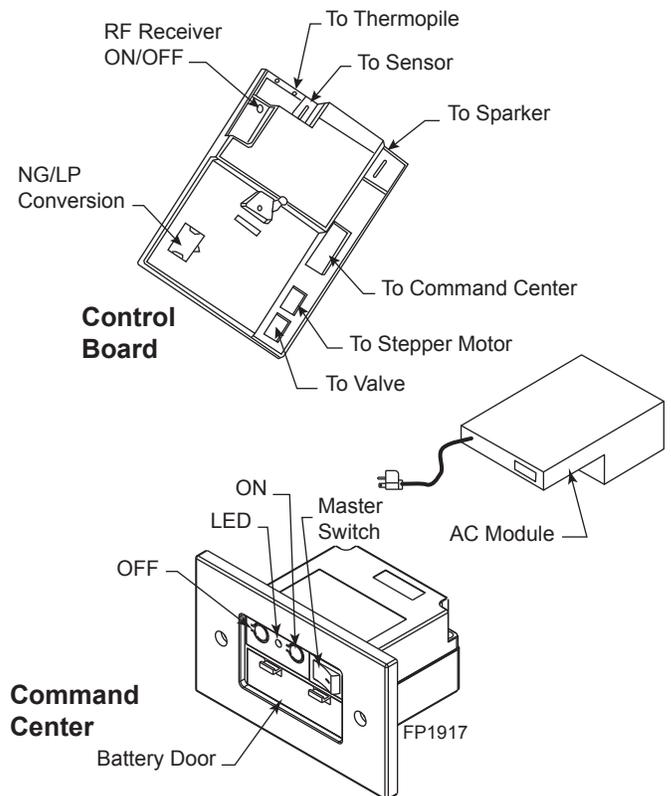

Figure 57 -
1. The RF receiver button located on the Control Board must be in the on position before the learn function can begin. Use paper clip to depress button. One beep for RF receiver ON or two beeps for RF receiver OFF will be given as confirmation. Refer to *Figure 57* for location.